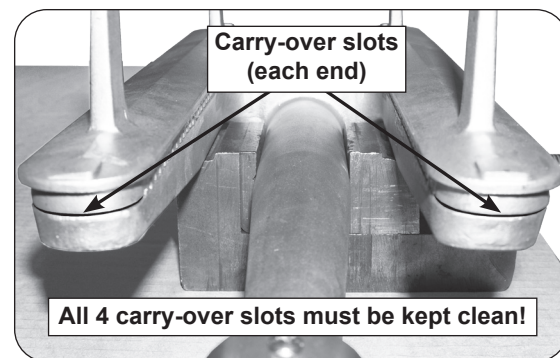
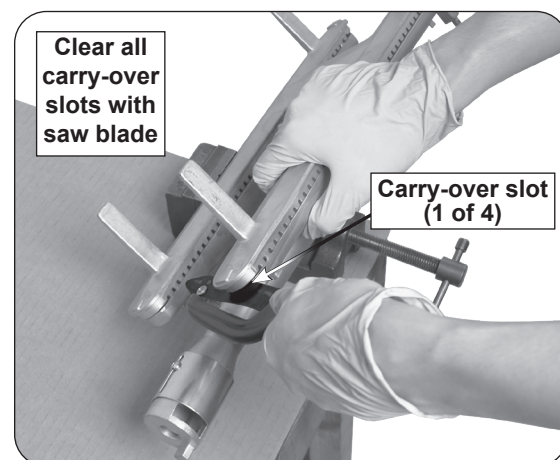

Fig. 5-1 Carry-over slots detail
Fig. 5-2 Saw out carry-over slots
- Slide saw blade into each of 4 carry-over slots on front and rear of burner, until the slots are open and clear of foreign material (see Fig. 5-1 and Fig. 5-2).